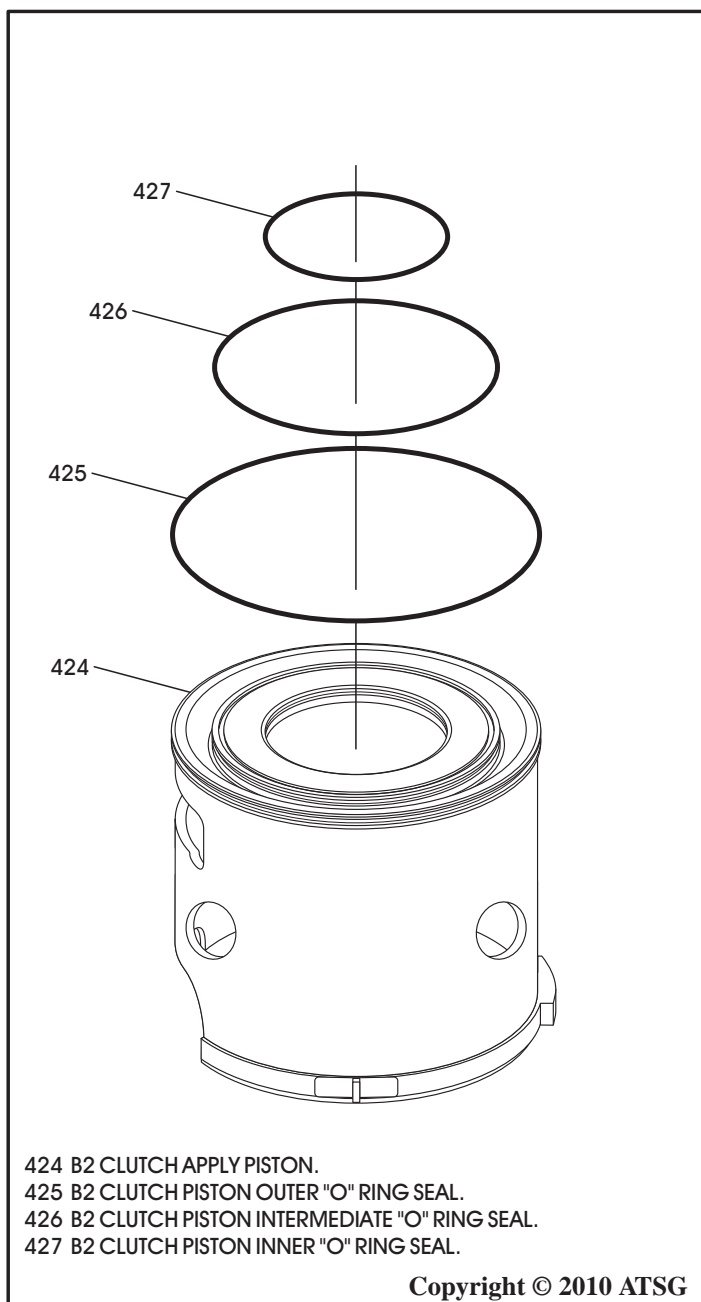

Figure 79
1. Install three new "O" ring seals onto B2 clutch apply piston, as shown in Figure 79, and lube with small amount of Trans-Jel®.